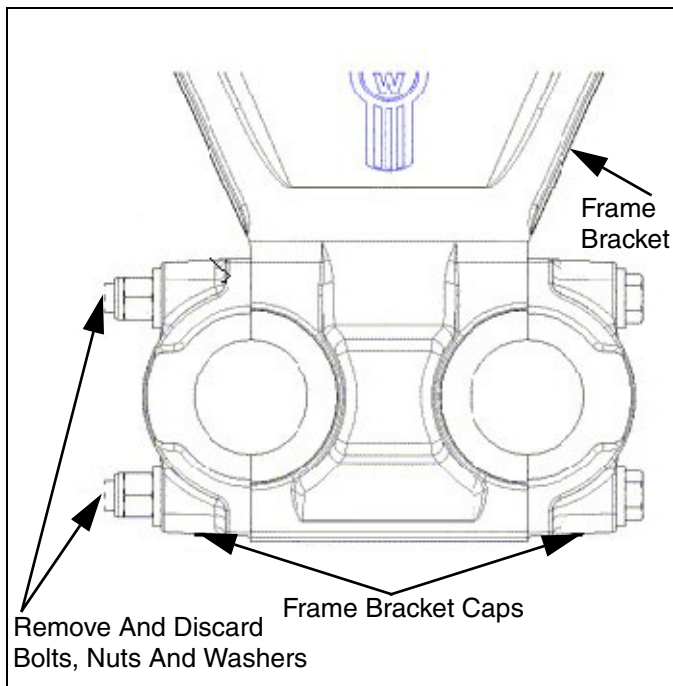

Figure 15-17
1. Remove and discard the fasteners from each frame bracket and cap joint. See Figure 15-17.